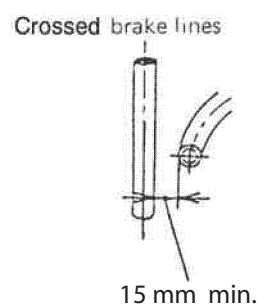

Fig. 4
- Avoid crossing brake lines. If this is unavoidable, position each line so it clears the other by more than 15 mm. (Fig. 4)